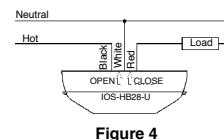

Figure 4
2. Connect the line voltage as show in Figure 4.